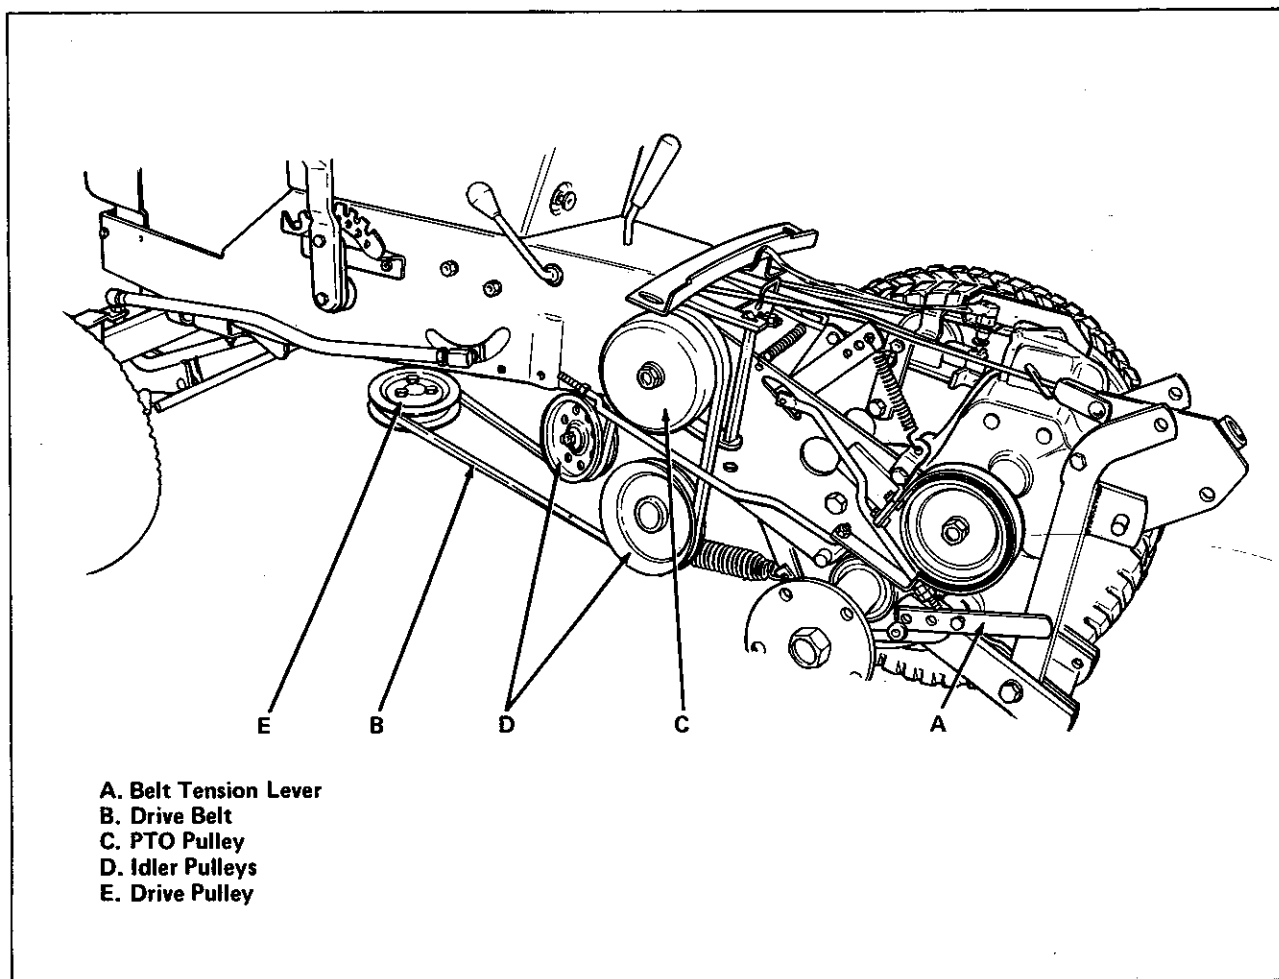

Figure 3. Install Drive Belt
5. Pull down lever (item A, figure 3) to release spring tension on PTO pulley bracket.
3. Push down on spring tension lever (item A, figure 3) to release tension on mower drive belt.
4. Remove mower drive belt (item B, figure 3).